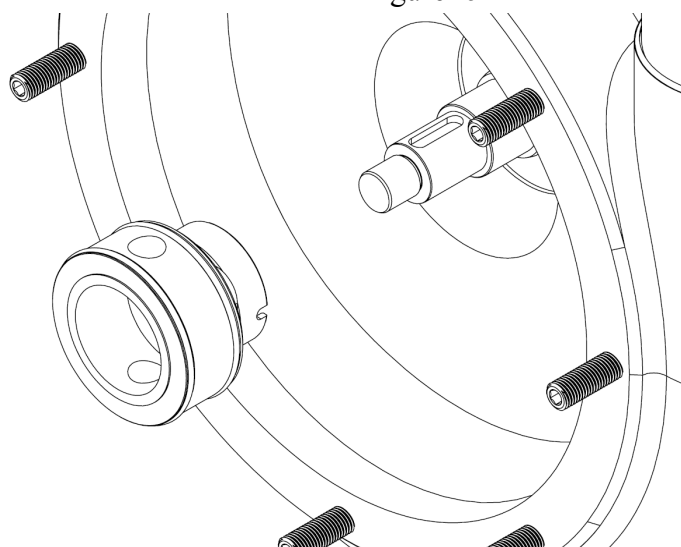

Figure 26
9. Remove the stationary seal once pushed out of its' bore. The double seal may also come out with the stationary seal if the pump has this option. See figure 26.